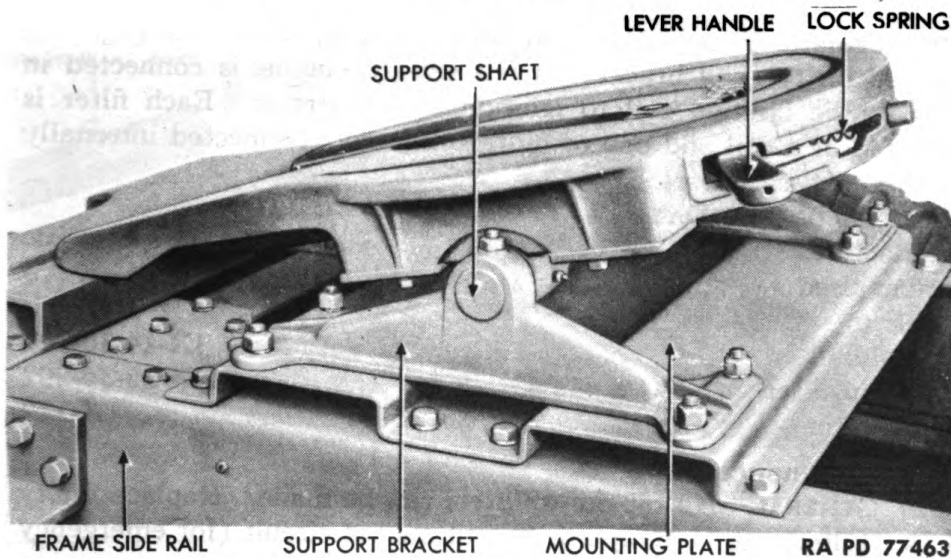

Figure 117 — Fifth Wheel Installed
a. Description (fig. 117). The fifth wheel is attached to a mounting plate bolted to the frame side rails at the rear of the truck. The wheel is used to couple the tractor and trailer together. It is a swivel mounted, flat, round steel-plate type. Rear half of plate forms a "V" shaped opening which serves to guide the kingpin neck of the trailer coupling to the coupler jaws at the center of the plate. Contact of necks snap jaws shut and releases a lever handle to a position which locks jaws shut. Disengagement is effected by pulling handle forward and pushing lever toward the center of the vehicle. This opens jaws and permits tractor to be pulled from trailer. The only service, in addition to lubrication necessary to fifth wheel concerns the kingpin and jaw surfaces. These will wear with use, and when wear results in an appreciable backlash, refer fifth wheel to higher authority for replacement of jaws.
179. REMOVAL (fig. 117).
180. INSTALLATION (fig. 117).